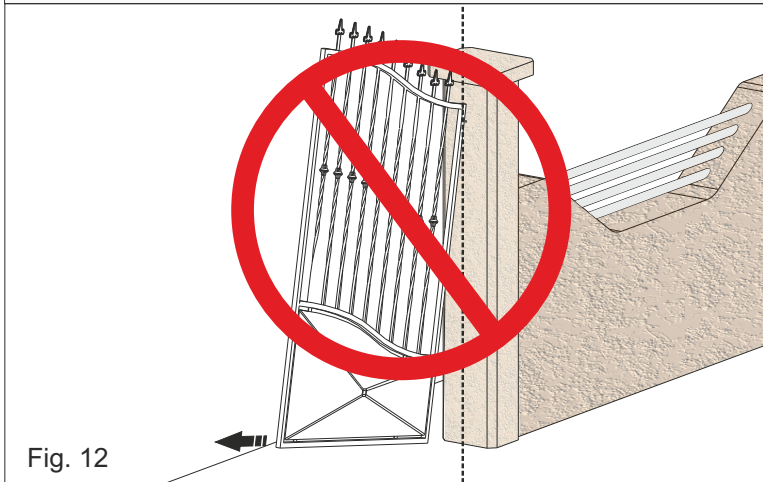
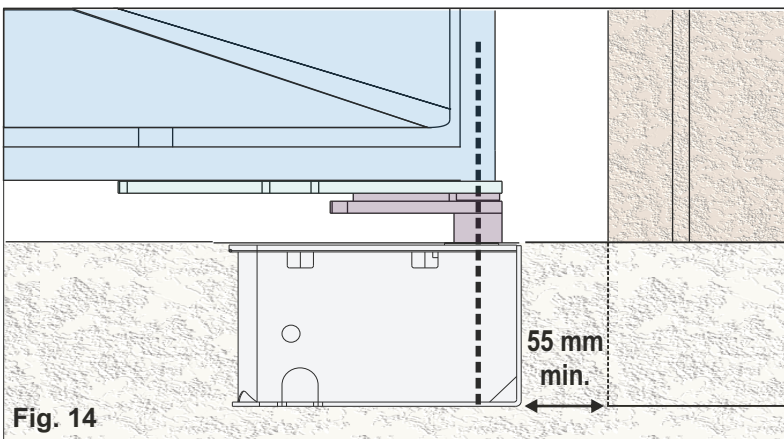

Fig. 12
Fig. 14
**⚠ NE PLACEZ PAS LE VANTAIL EN DEHORS DES AXES (FIG. 12 - 13); FAIRE COÏNCIDER LA TIGE AVEC L'AXE DE ROTATION DE LA CHARNIERE DU VANTAIL; LA DISTANCE MINIMALE DE LA COLONNE DOIT ÊTRE DE 55 mm (FIG.14))